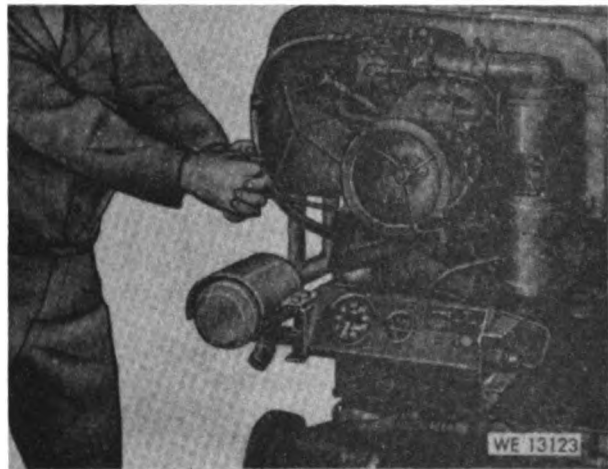

Figure 45. Starting gasoline engine with pull rope.
- (l) Crank engine two or three revolutions with the pull rope to draw fuel into the intake manifold and cylinders (fig. 45).
- (q) Start the engine by cranking with a firm steady pull on the pull rope (fig. 45). Do not use excessive force.
rope (fig. 45). Do not use excessive force.